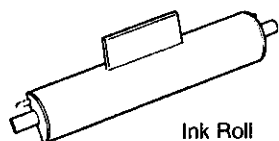

Fig. 5
- * The Ink Roll is a consumable product and a genuine part supplied by TEC. Ask your TEC representative for an additional order. (Fig. 5)